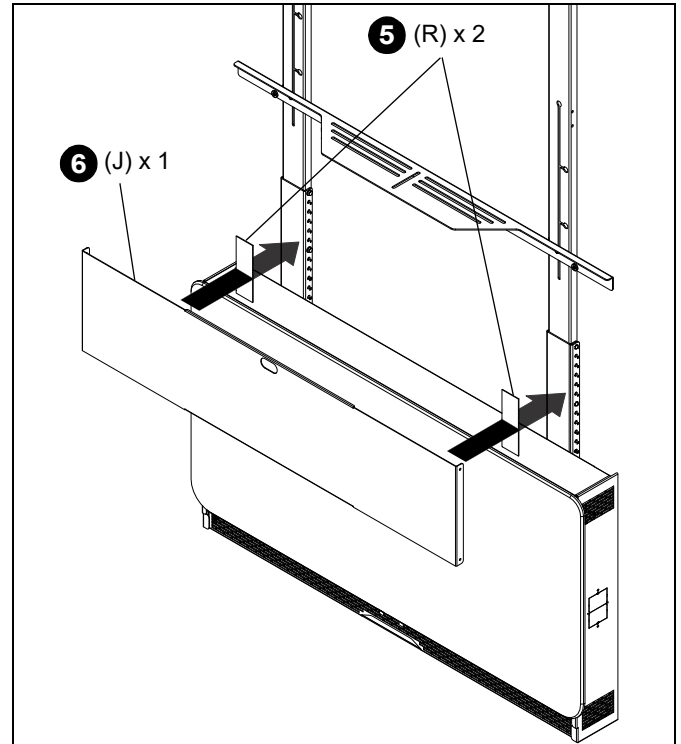

Figure 22
5. Install two magnetic tape strips (R) onto bottom uprights (F/G) by removing adhesive cover to permanently secure them to uprights. Strips (R) should be located approximately 1" above top surface of the floor cabinet (A). (See Figure 22)
6. Place low cover (J) onto two magnetic strips (R). (See Figure 22)